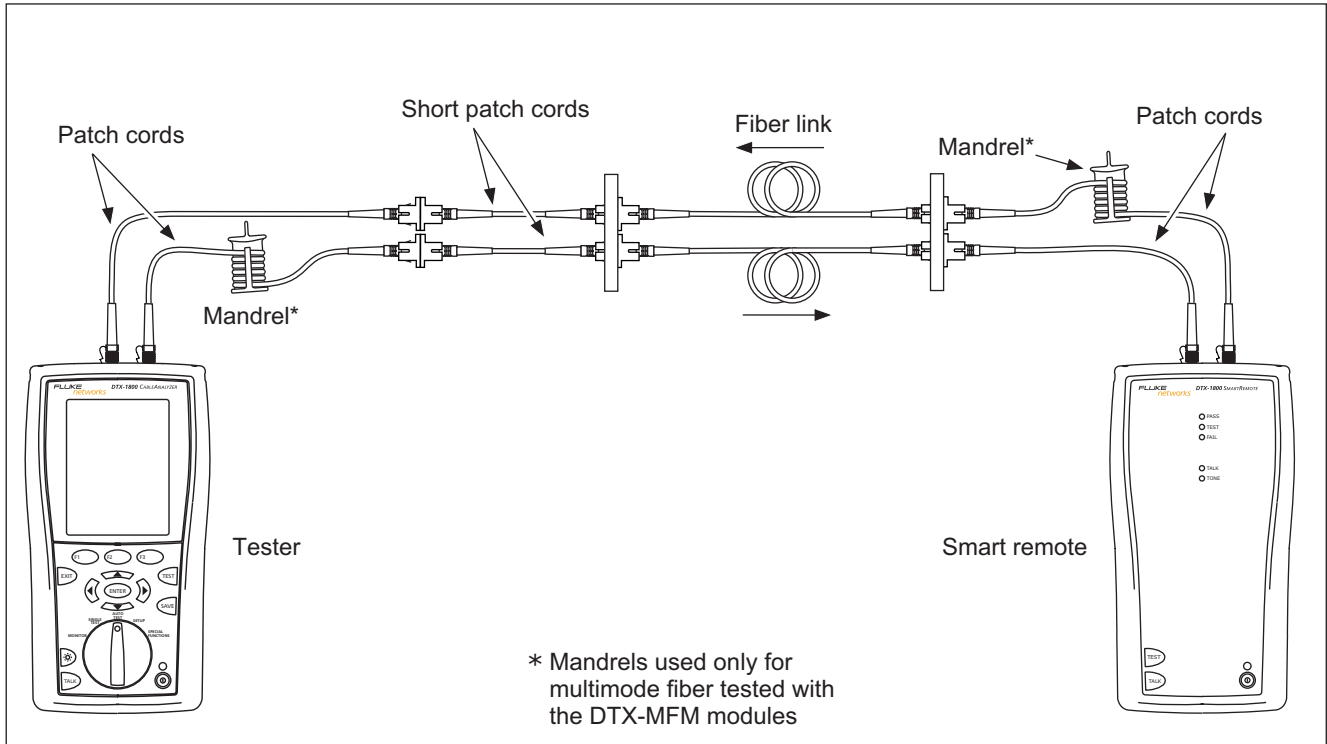

Figure 7. Smart Remote Mode Test Connections (Modified Method B)
- At the beginning of each day using the remote end setup (Figures 7 through 13) you will use that day.
- 5 Clean the connectors on the cabling to be tested; then connect the patch cords to the cabling. The tester shows test connections for the test method you selected. Figure 7 shows connections for Method B.